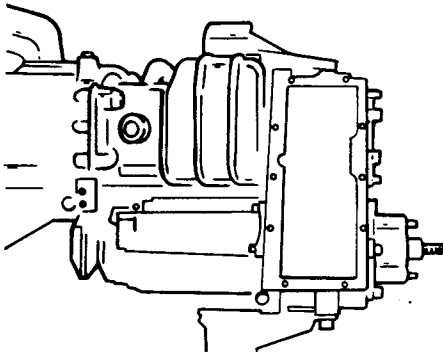

Fig H2.4
- (3) Refer to Fig H2.4. Position the gearbox assembly vertically with the clutch housing downwards. To maintain the assembly in this position, make use of the flywheel housing.
- (4) Remove the screw and nut that holds the selector lever for high and low speeds and extract the lever.